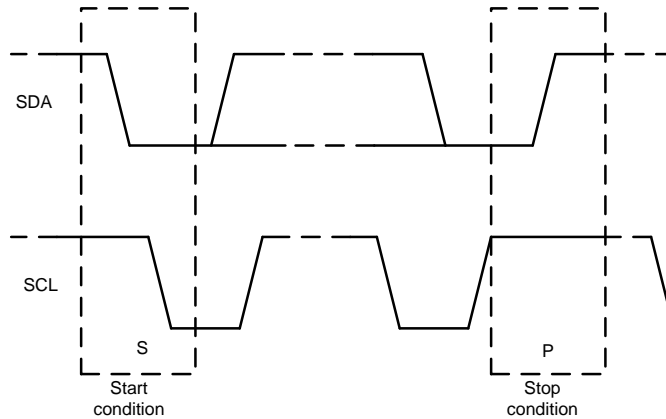

Figure 7. Start and Stop Conditions
1. The master initiates data transfer by generating a start condition. The start condition is when a high to-low transition occurs on the SDA line while SCL is high, as shown in Figure 7. All I2C-compatible devices recognize a start condition.
4. To signal the end of the data transfer, the master generates a stop condition by pulling the SDA line from low to high while the SCL line is high (see Figure 7). This action releases the bus and stops the communication link with the addressed slave. All I2C-compatible devices recognize the stop condition. Upon receipt of a stop condition, the bus is released, and all slave devices then wait for a start condition followed by a matching address.